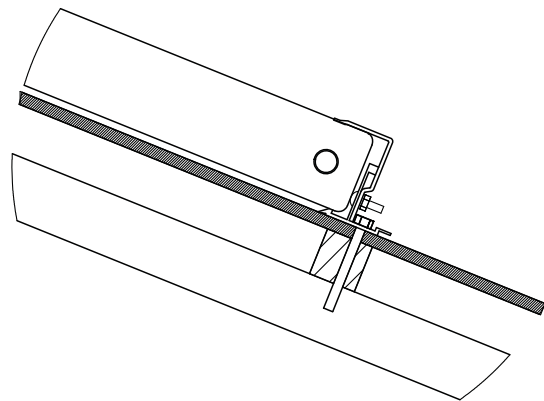

Figure 20 - Mount Collector on Roof
- Drill through the roof iron and purlin using the upper mounting rail as a guide. Apply some silicone sealant down the holes to ensure no water leakage and secure with suitable fasteners as shown in **Figure 20**. Alternatively the rail can be attached to the roof using the collector mounting straps.